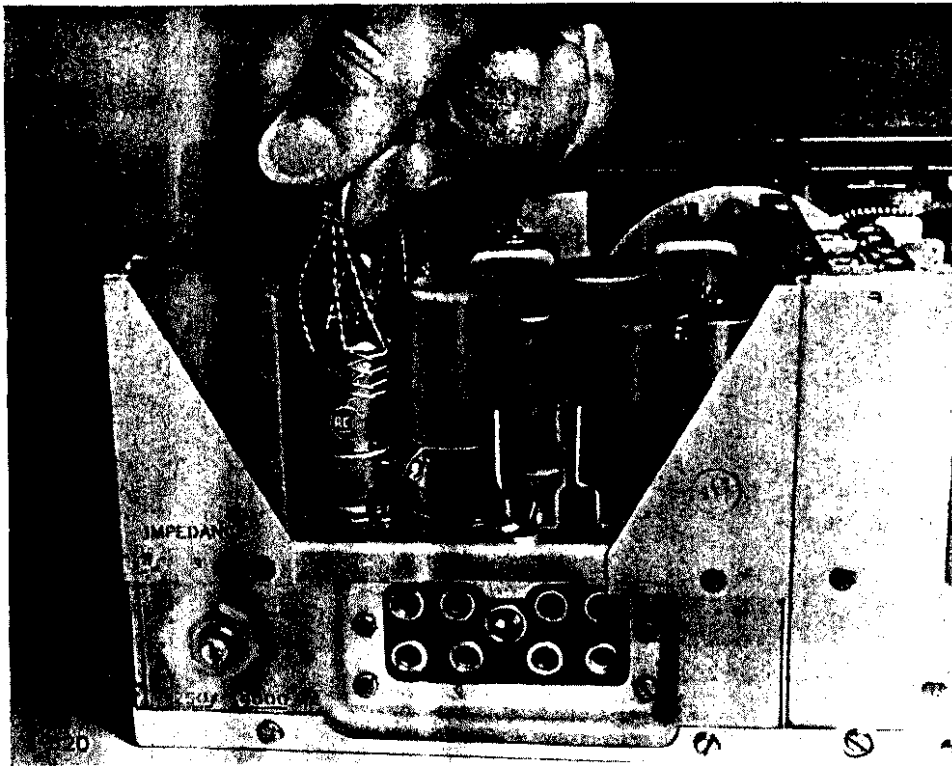

Figure 41. Removing tubes by means of tube extractor.
b. The remainder of the tubes and crystals are located under a small plate (fig. 39). The tubes are V101, V102, and V105 and the crystals are 1A, 1B, 2A, 2B, 3A, and 3B. The cover plate can be removed by releasing the spring catches at both ends of the plate and lifting straight upward. The tubes and crystals are then easily accessible. The tubes can be removed as shown in figure 41.